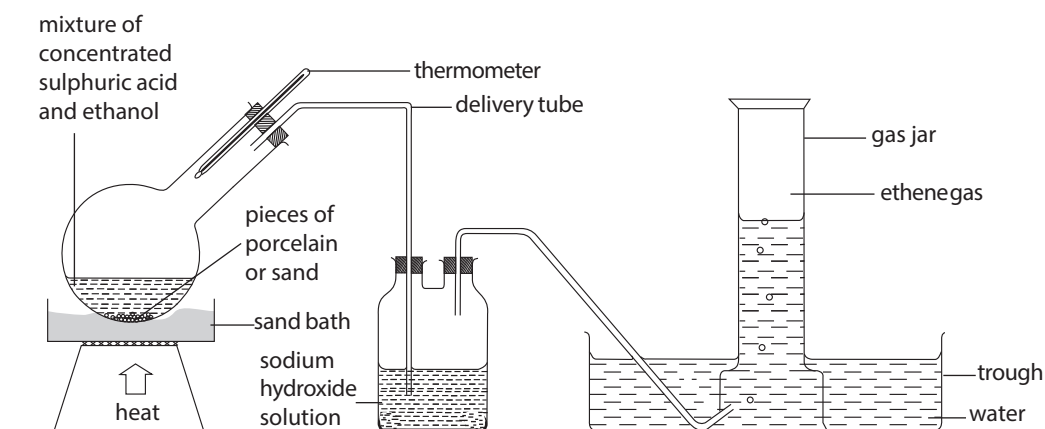

Fig. 6.4: Laboratory preparation of ethene gas
2. To the round-bottomed flask, add 2-3 g of clean dry broken pieces of porcelain or sand and assemble the apparatus as shown in Fig 6.4.